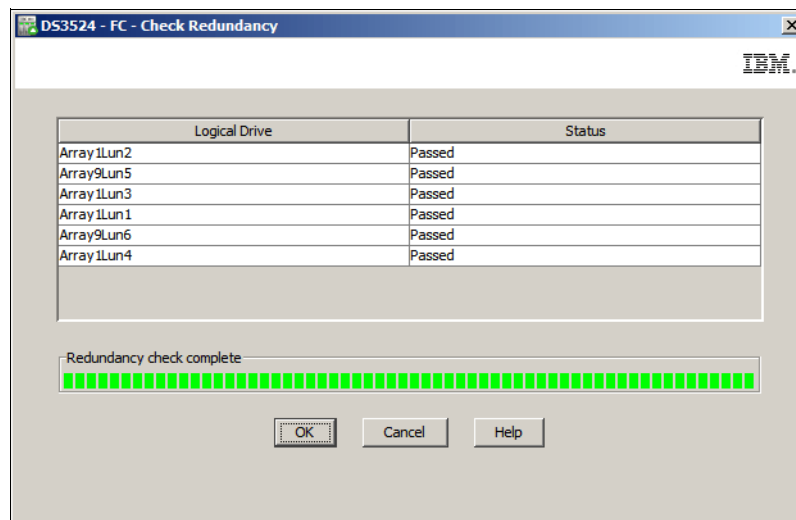

Figure 14-154 Check Redundancy completed
- The window shown in Figure 14-154 is displayed after the last logical drive in the array has been checked, click **Done** to exit.